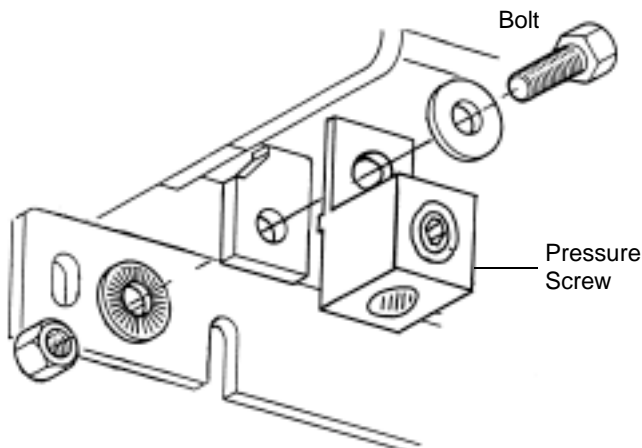

Figure 22: Lug and Washer Orientation
- Using the hardware provided, attach the lugs as shown in Figure 22. Note the orientation of the washers.